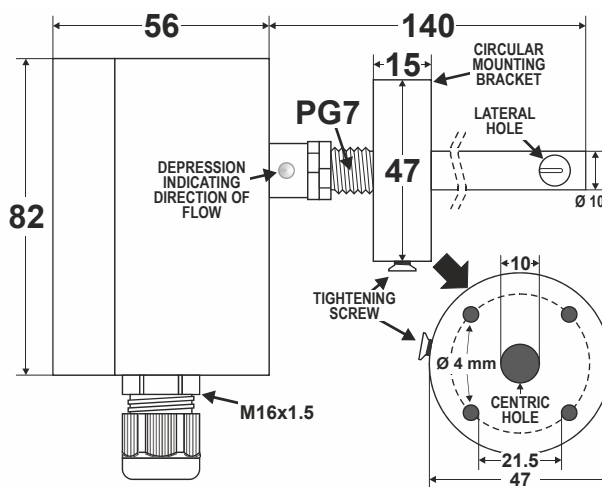

Fig. 1. KSL, dimensions (mm)
- Rotate the device to ensure that the air flows through the lateral opening at the tip of the probe. Specifically, the small depression (see Fig. 1) should face *towards* the oncoming air.
- Finally, securely fix the device in place using the tightening screw (see Fig. 1).